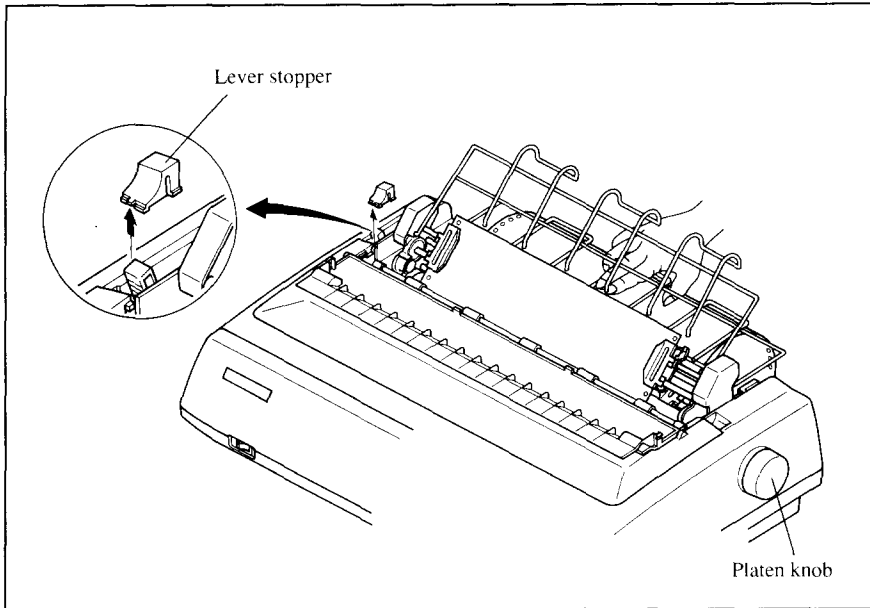

Figure 4-10. Remove the lever stopper, and tighten the paper.
14. Remove the lever stopper from the slot of the release lever as shown in Figure 4-10.